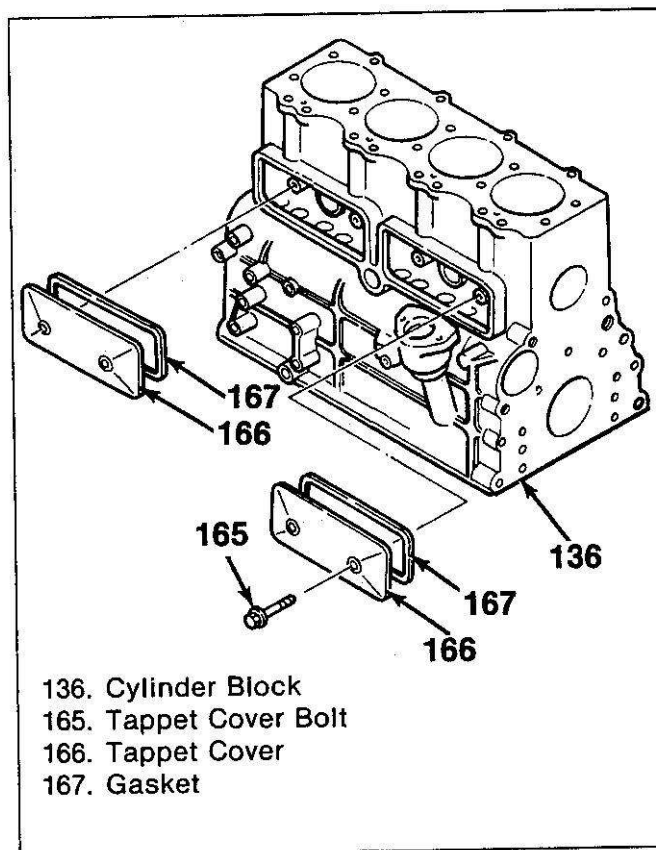

Figure 85. Tappet Chamber Covers
Remove or Disconnect (Figures 85, 86 and 87)
2. Timing cover (104) as outlined in "Timing Cover Replacement" previously in this section.
3. Tappet covers (166) (figure 85).
Inspect (Figures 85, 86, 87 and 88)